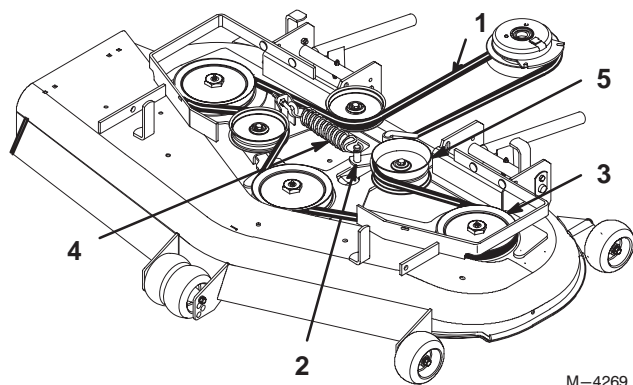

Figure 58
4. Remove belt. Start at outside pulley and rotate off (Fig. 58).
7. Reinstall idler pulley and route belt onto other pulleys (Fig. 58).